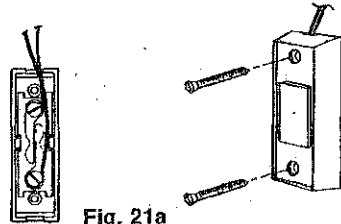

Fig. 21a
6. Attach wire to wall control (Fig. 21a).
7. Mount wall control with wood screws (Fig. 21a).